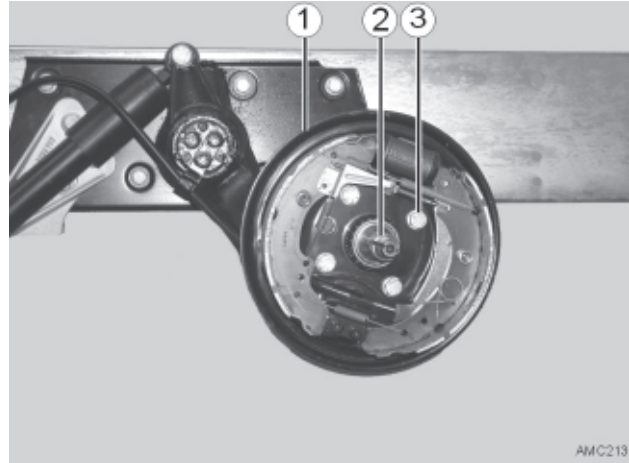

Fig. 28
7. Dismantle the back plate (Fig 28 - 1) as well as the stub axle (Fig 28-2) as per assembly instructions from the basic vehicle manufacturer.
4 M14x1.5x55 screws (Fig 28 - 3):